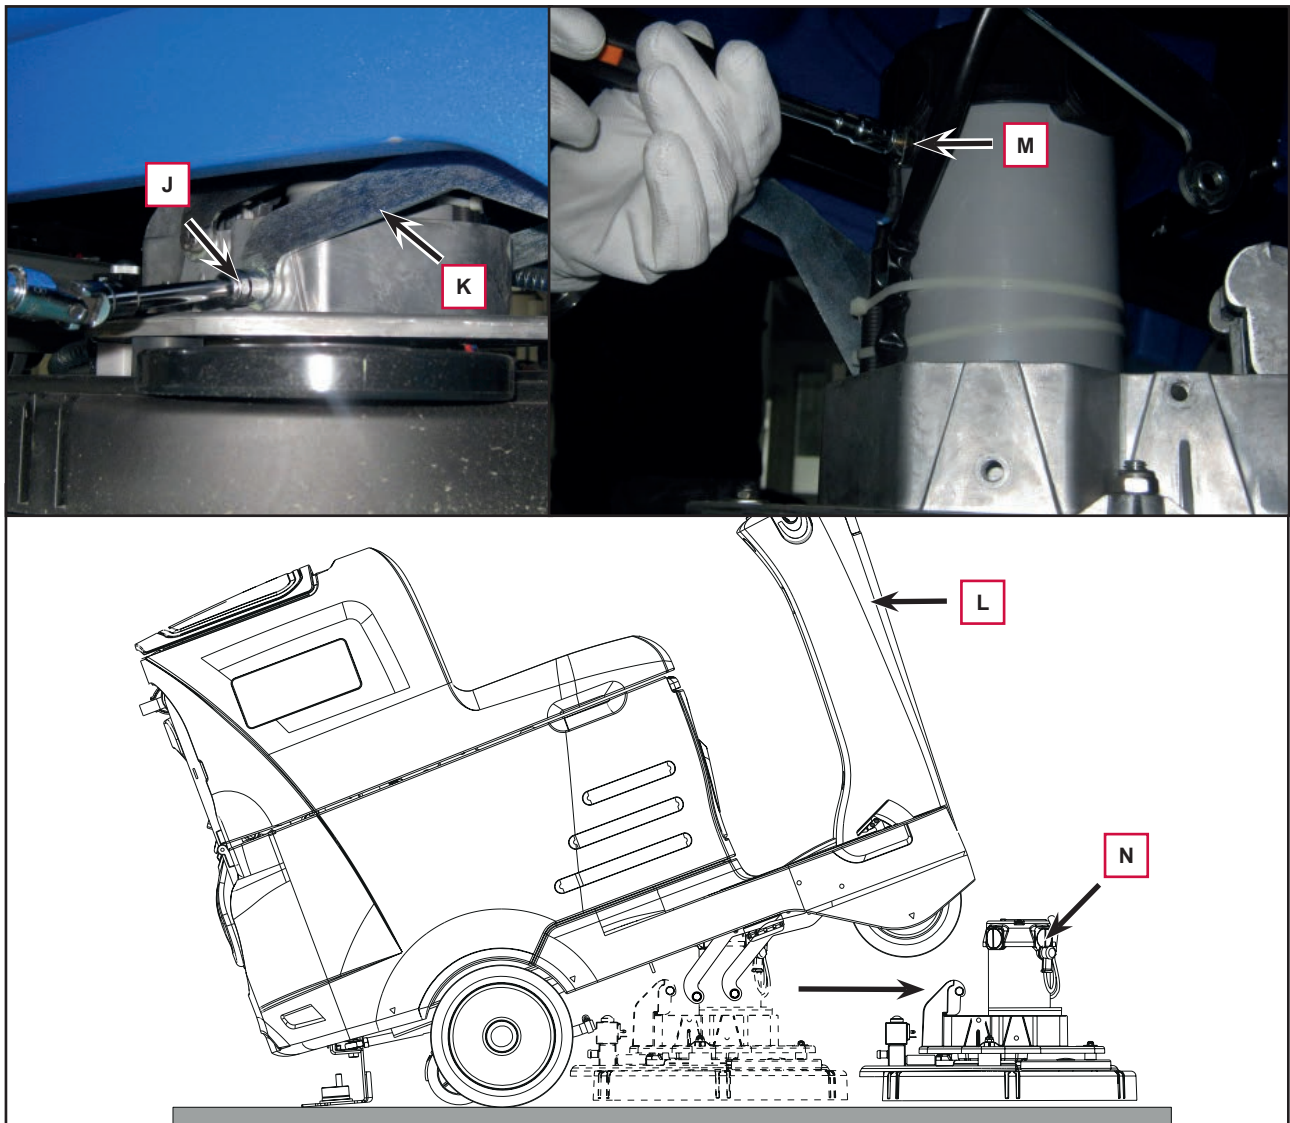

Figure 9
**Warning!** To easily remove the brush deck, lift the machine body at the front side as shown (L, Figure 9). Use extreme caution and follow the safety regulations using proper equipment or safety fixed supports suitable for the purpose.
12. Remove the 4 screws (J, Figure 9) from the raising levers (K).
13. Lift the machine body (L) and disconnect the electrical wiring harness (M) from the brush motor, then remove the brush deck (N) under the machine body.